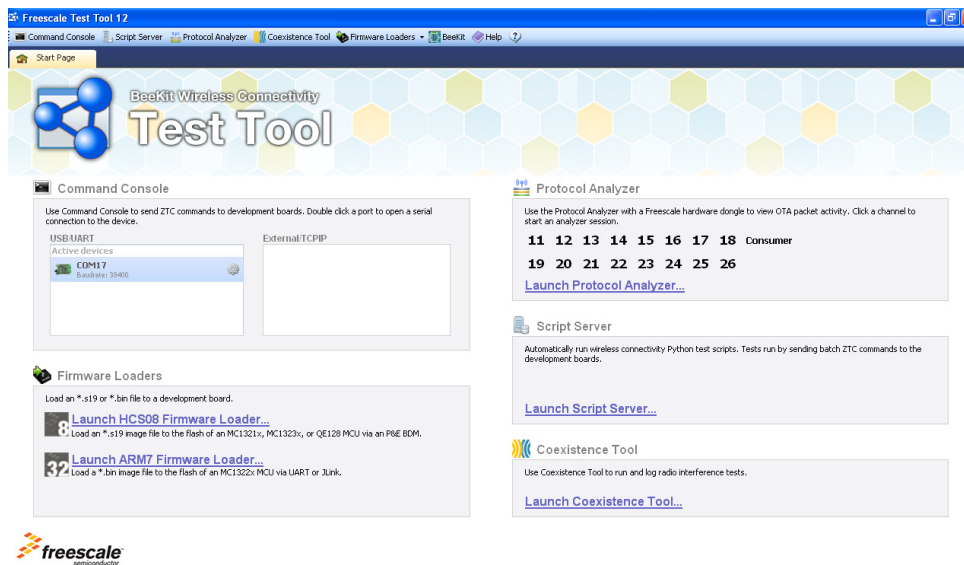

Figure 5-2. Test Tool Communication Settings
6. The Test Tool main window appears. Configure a serial connection by reviewing which ports are active as displayed on the left side of the Test Tool main window. Configure a port by clicking on the Settings button located next to the port name as shown in Figure 5-2.